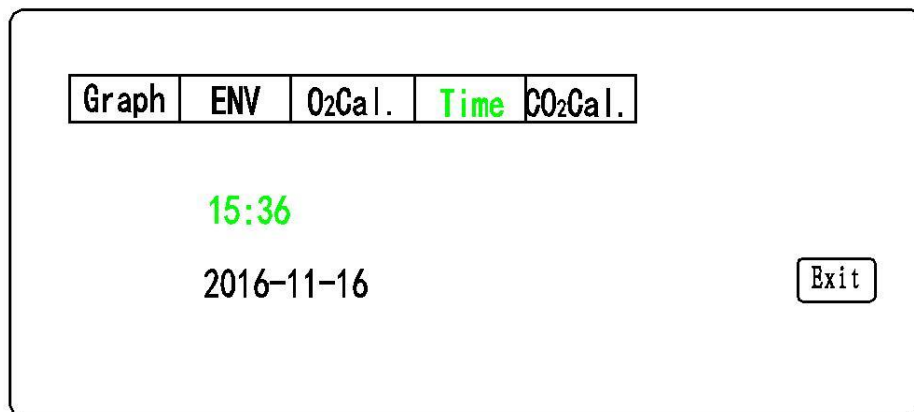

Fig 32 Date setting
- Press adjusting shuttle /confirmation knob (Item 15 in Fig 12) to enter “Time” surface, refer to Fig 32;